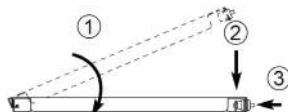

Figure 6
3. Attach the **Front Plate** to the **Rear Plate** and **Lock** the **Tablet Enclosure Assembly**, using the **Key**. (Figure 6)